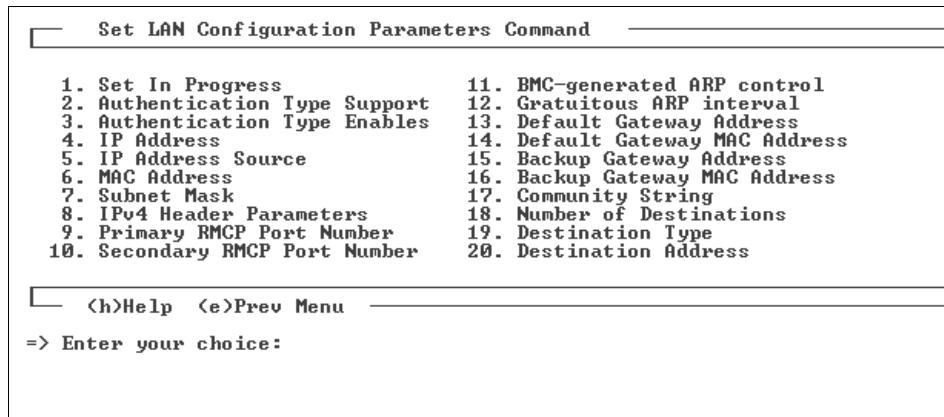

Figure 2-15 LAN configuration parameters command menu
2. Enter 1 to select Set LAN Configuration Parameters. Figure 2-15 on page 25 appears.
8. Enter E to return to Figure 2-15.
1. From Figure 2-15, enter 7 to select subnet mask.
6. Enter E to return to Figure 2-15.
1. From Figure 2-15 on page 25, enter 13 to select default gateway address.
6. Enter E to return to Figure 2-15 on page 25.
1. From Figure 2-15 on page 25, enter 20 to select default destination.
8. Enter E to return to Figure 2-15 on page 25.